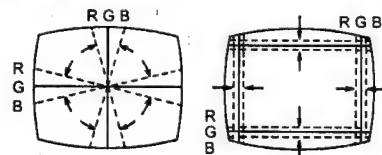

Fig. 4-2-a
2. Insert three wedges between the deflection yoke and CRT funnel to fix the deflection yoke. (Refer to Fig. 4-2-b)